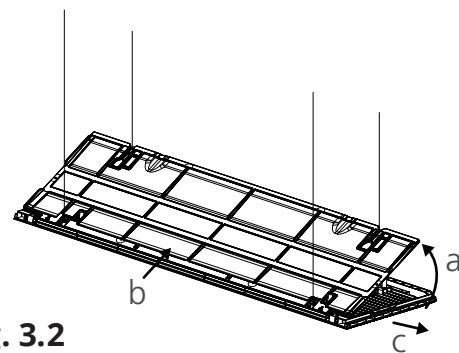

Fig. 3.2
4. Remove the filter from the air intake grille by following these steps (**Refer to Fig. 3.2**):